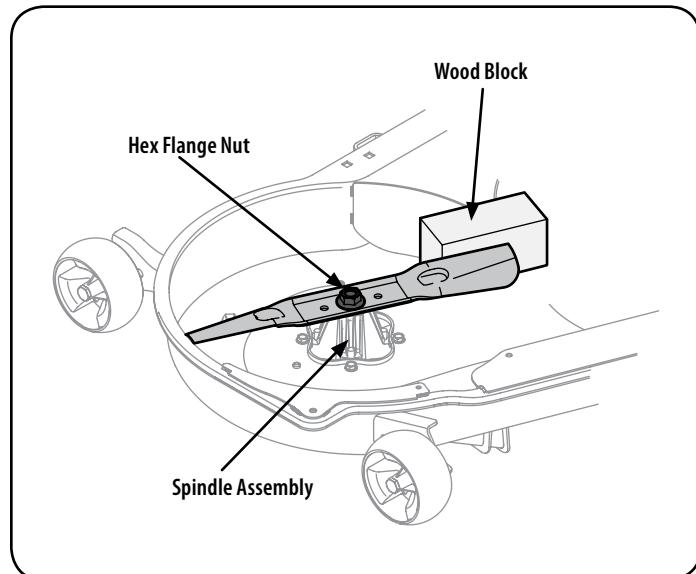

Figure 42
2. Use a  $1\frac{5}{16}$ " wrench to hold the hex nut on top of the spindle assembly when loosening the hex nut securing the blade. A block of wood may be placed between the deck housing and the cutting edge of the blade to help in breaking loose the hex nut securing the blade. See Figure 42.